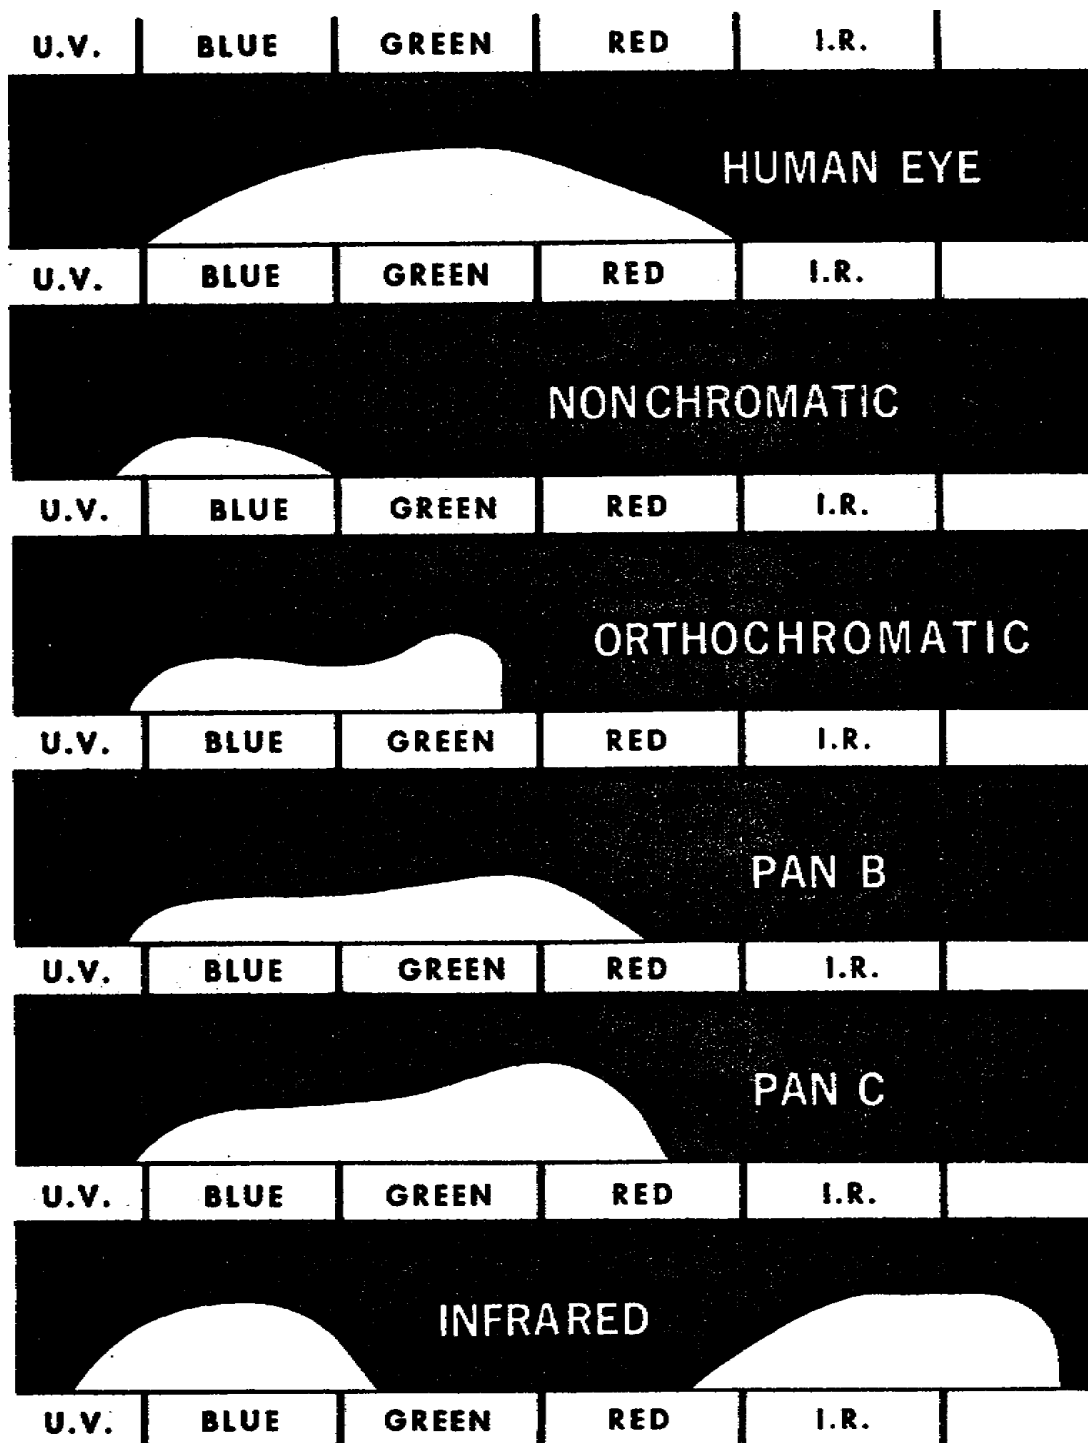

Figure 2-1. Film color sensitivity
- a. The many different varieties of film can be reduced to five basic types by their color sensitivity. The types are nonchromatic, orthochromatic, panchromatic B, panchromatic C, and infrared. The color sensitivity of each of these types, and of the human eye is shown in Figure 2-1.
3. (Refer to Figure 2-1). What type of film has the least sensitivity to colors?